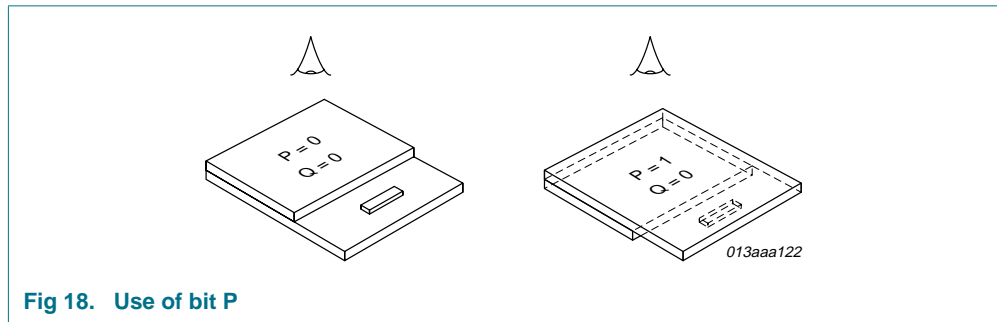

Fig 18. Use of bit P
**Bit P:** The P bit is used to flip the display left to right by mirroring the column data, as shown in Figure 18. This allows the display to be viewed from behind instead of front and enhances the flexibility in the assembly of equipment and avoids complicated data manipulation within the controller.